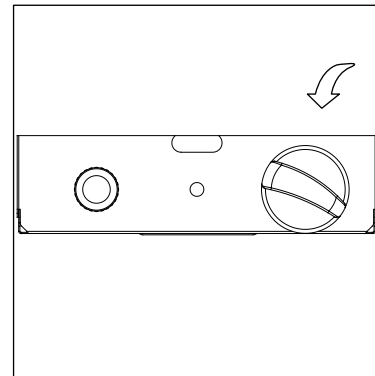

Figure 5
8. Push in and turn the control knob to the "HIGH", then release control knob. If you want a lower temperature, push in the control knob and turn counterclockwise to the "LOW" position. (*Figure 5*).